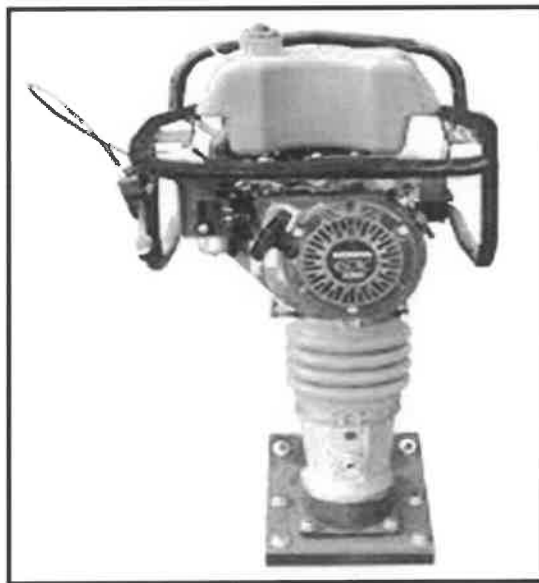

FIGURE 4.3
4.3 FIGURE 4.3 below shows a construction machine that is used on a building site.